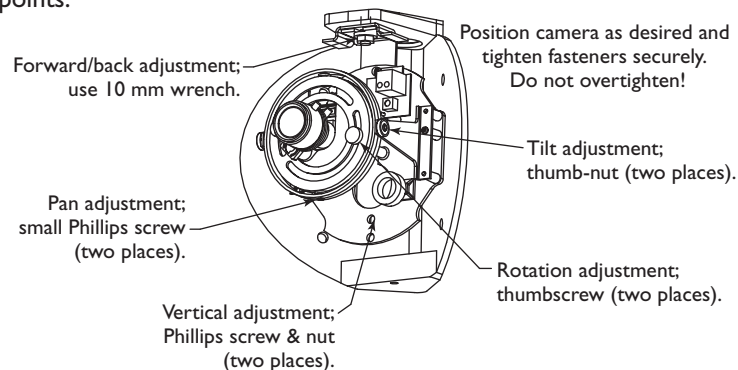

Figure 3 Camera Position Adjustment Points
- Adjustability:** Camera/lens is fully adjustable. See **Figure 3** for adjustment points.